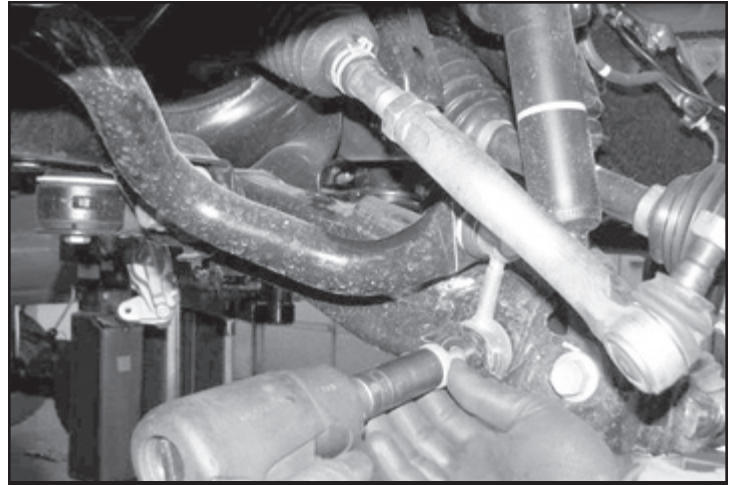

FIGURE 50
28. Reinstall the lower sway bar link to the lower control arm. Torque to 100 ft-lbs. **SEE FIGURE 50**